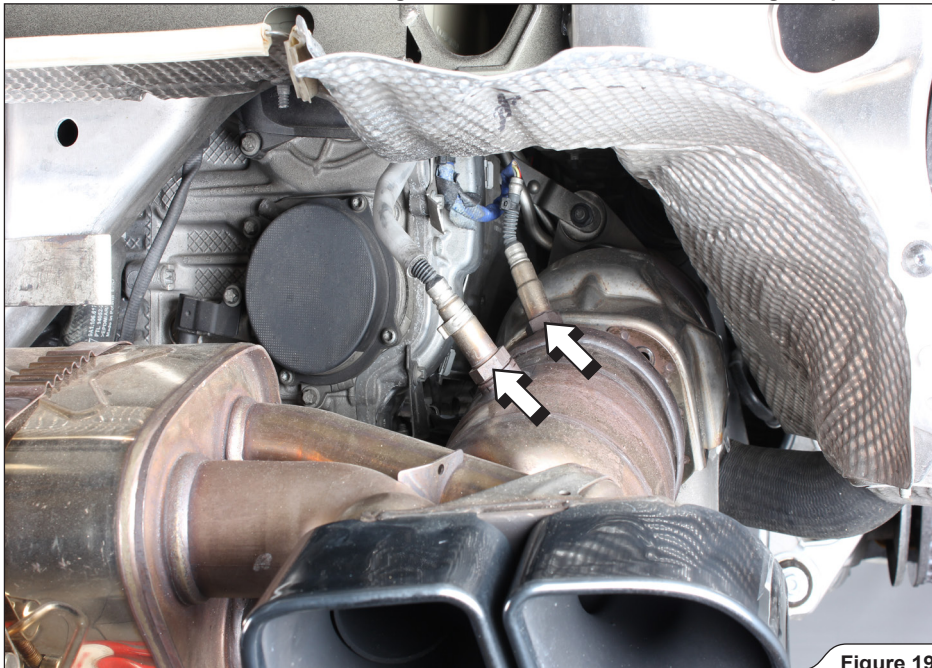

Figure 19
- Slide the muffler's tape clamps off the brackets behind the muffler and carefully lower the muffler with link pipes, until you can unscrew the lambda sensors. Unscrew all lambda sensors and remove the muffler together with link pipes and turbo chargers' heat shields off the vehicle (**Figure 19**).